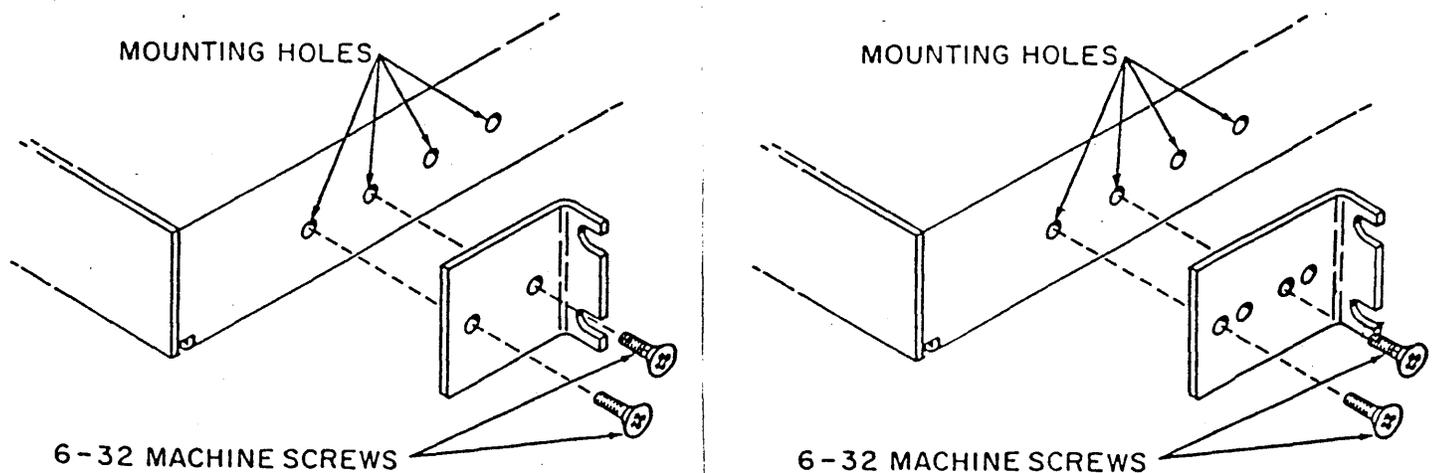

Fig. 1 - Attachment of standard and alternate mounting brackets to Digital Announcer
2.03 Figure 1 shows both standard and alternate bracket attachment.